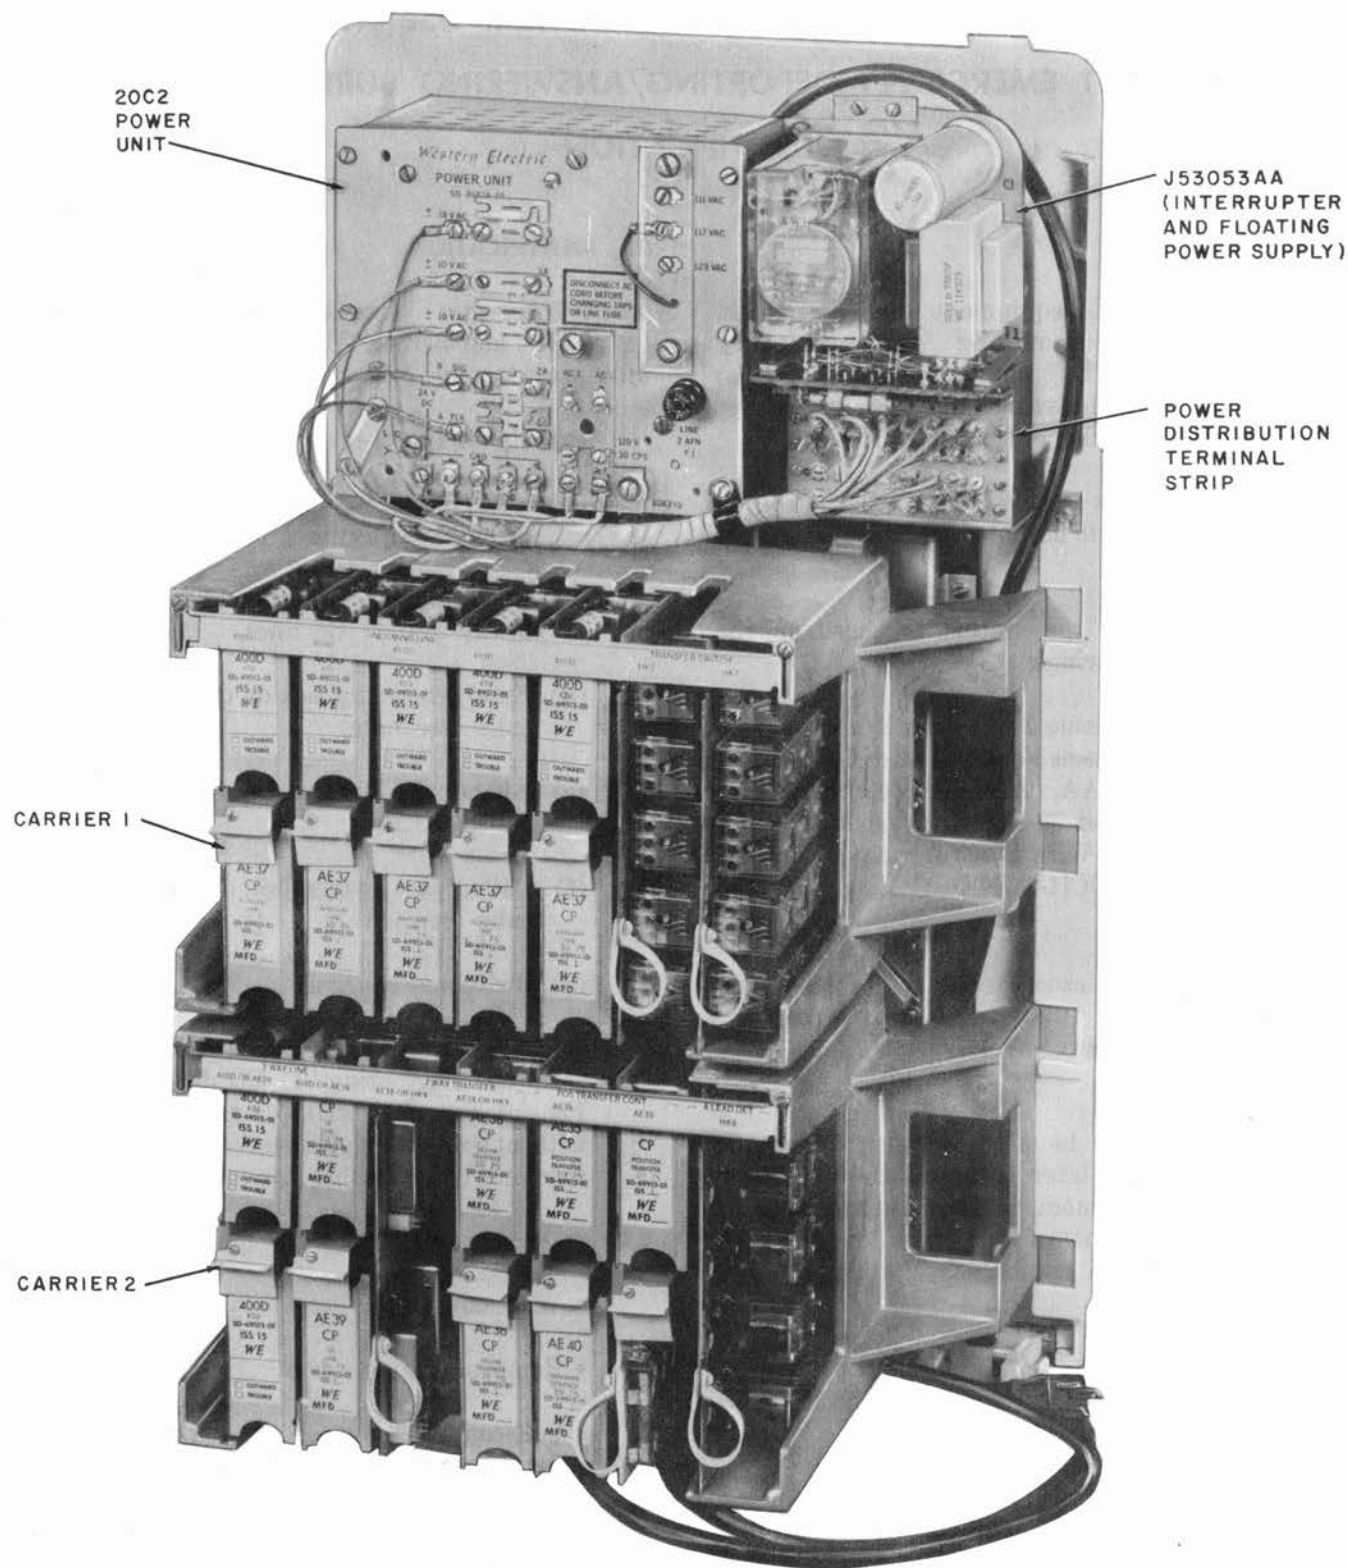
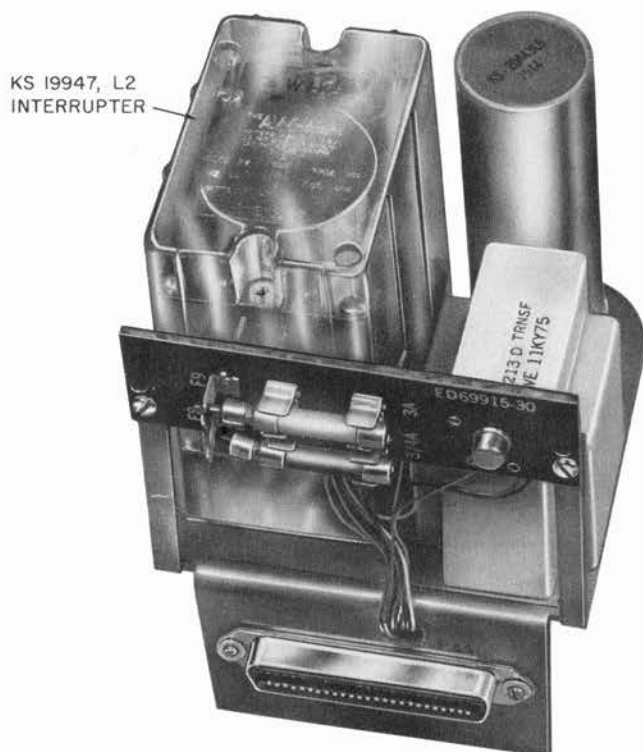
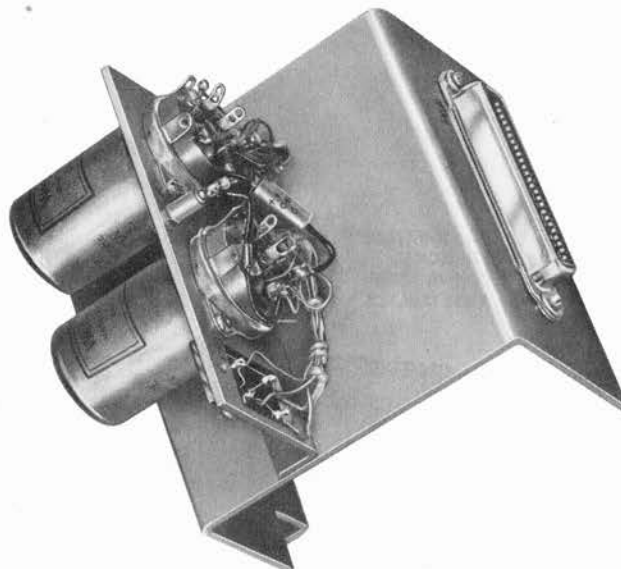

Fig. 1—J53053A,L1 Equipment Unit (Carrier Closed)
Fig. 3—J53053AA Interrupter and Floating Power Supply
Fig. 4—J53053AB Auxiliary Relay Circuit
1.01 The J53053A,L1 equipment unit (Fig. 1 and 2) is a wall mounting for housing key telephone units (KTUs) and circuit packs (CPs) which provide the various arrangements and features of the 8A Key Telephone System (KTS).
- J53053AA (Fig. 3) (Interrupter and Floating Power Supply) plugs into a KS-16671,L1 connector (Fig. 1) located next to the power unit of the first J53053A,L1 equipment unit. The J53053AA provides a KS-19947,L2 interrupter for ringing and lamp interruption and a 24V floating power supply for the transfer release feature, plus two associated power fuses.
- J53053AB, (Fig. 4) (Auxiliary Relay Circuit) plugs into the KS-16671,L1 connector (Fig. 1)